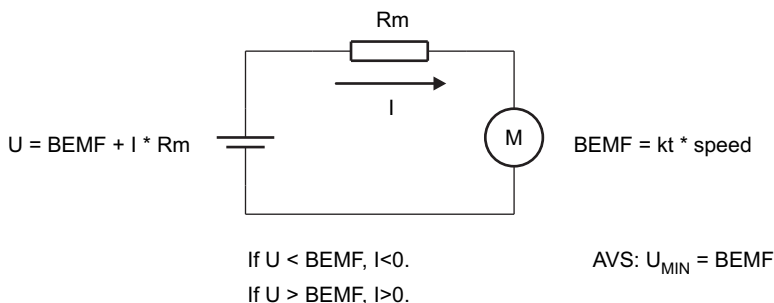

Figure 12. Mechanical AVS
Mechanical energy is typically returned to the power supply when the speed command is abruptly decreased. If the voltage applied to the phase becomes less than the BEMF voltage then the motor will work as a generator and current will flow from the motor back to VCC. This is illustrated in Figure 12. To prevent this from happening, the DRV10964 buffers the speed command value and limits the rate at which it is able to change. The AVS function acts to ensure that the effective output amplitude (U) is maintained to be larger than the BEMF voltage. This prevents current from becoming less than zero. The value of BEMF used to perform this function is calculated by the motor Kt and the motor speed.